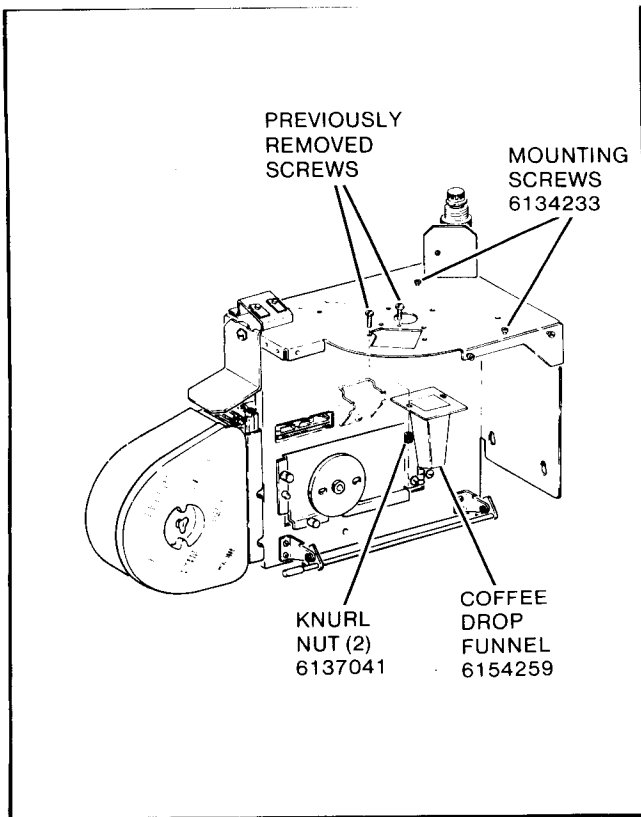

Figure 7
3. Install the new Coffee Drop Funnel. Use the two screws saved in step B2 and the two 6137041 Knurl Nuts. See Figure 7.